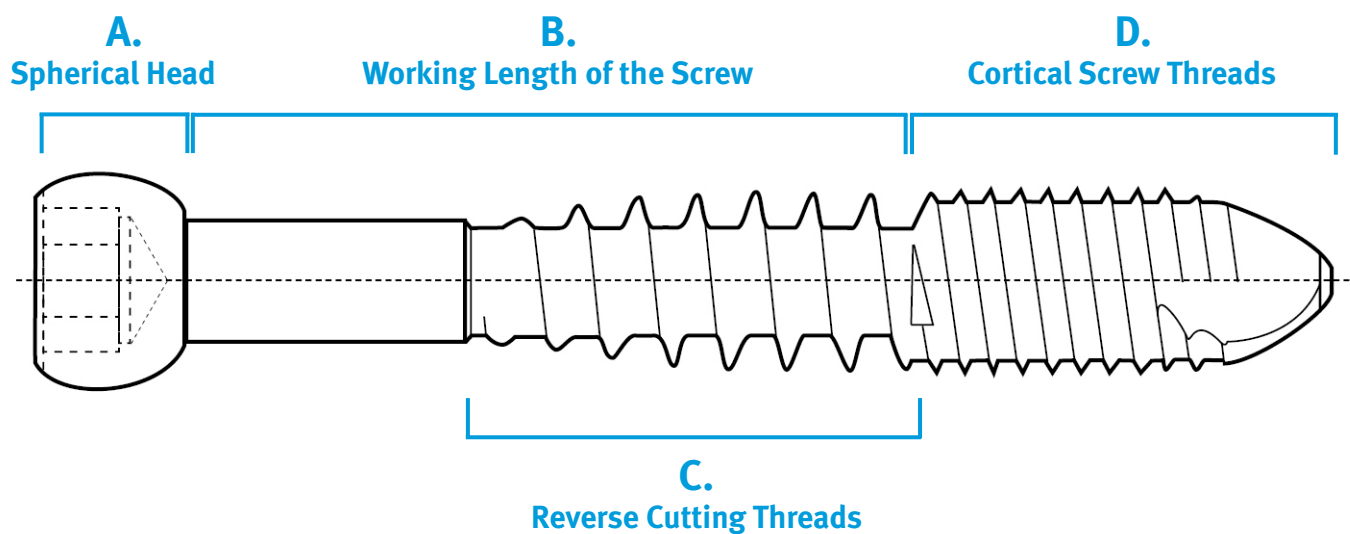

Fig. 1
*MotionLoc* Screws look different than most cortical screws. The picture below outlines the different design aspects (Fig. 1) The following pages explain each labeled element of the screw.